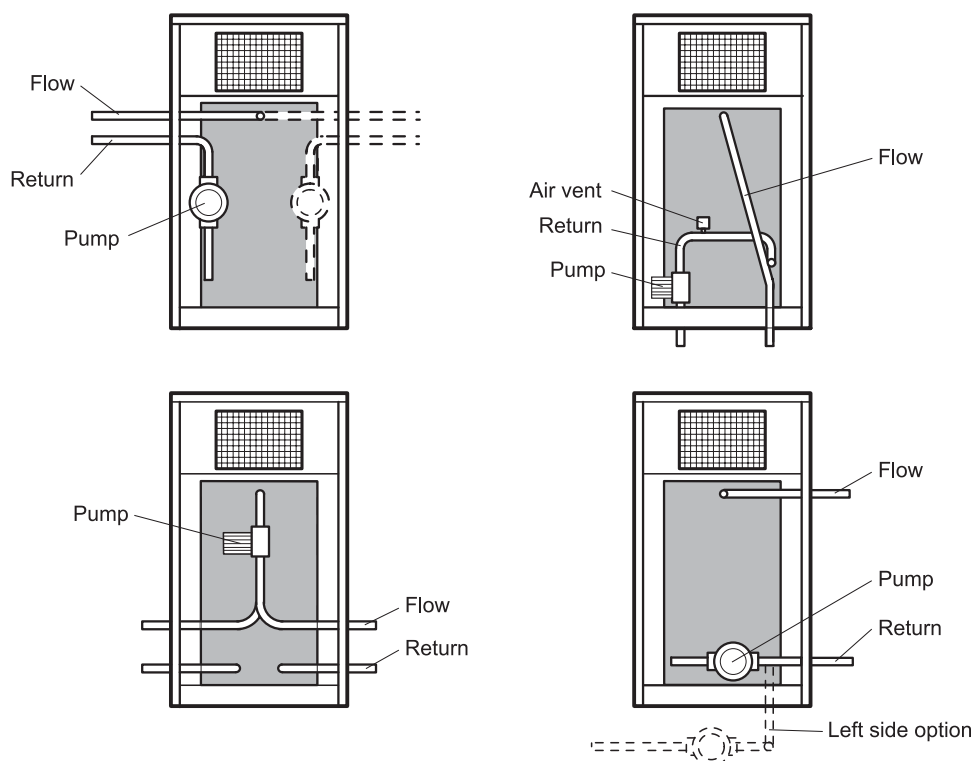

Fig. 14 - 50/70, 70/90 and 90/120 Water connections
See Fig. 14 or 14a
- Connect the free end of the flexible hose to the expansion vessel, ensuring that the red sealing washer provided is fitted. Tighten the union nut on the flexible hose and place the expansion vessel on top of the boiler heat exchanger. See Fig. 14.
- 5 Fit the pressure relief valve discharge pipe. See Fig. 14.